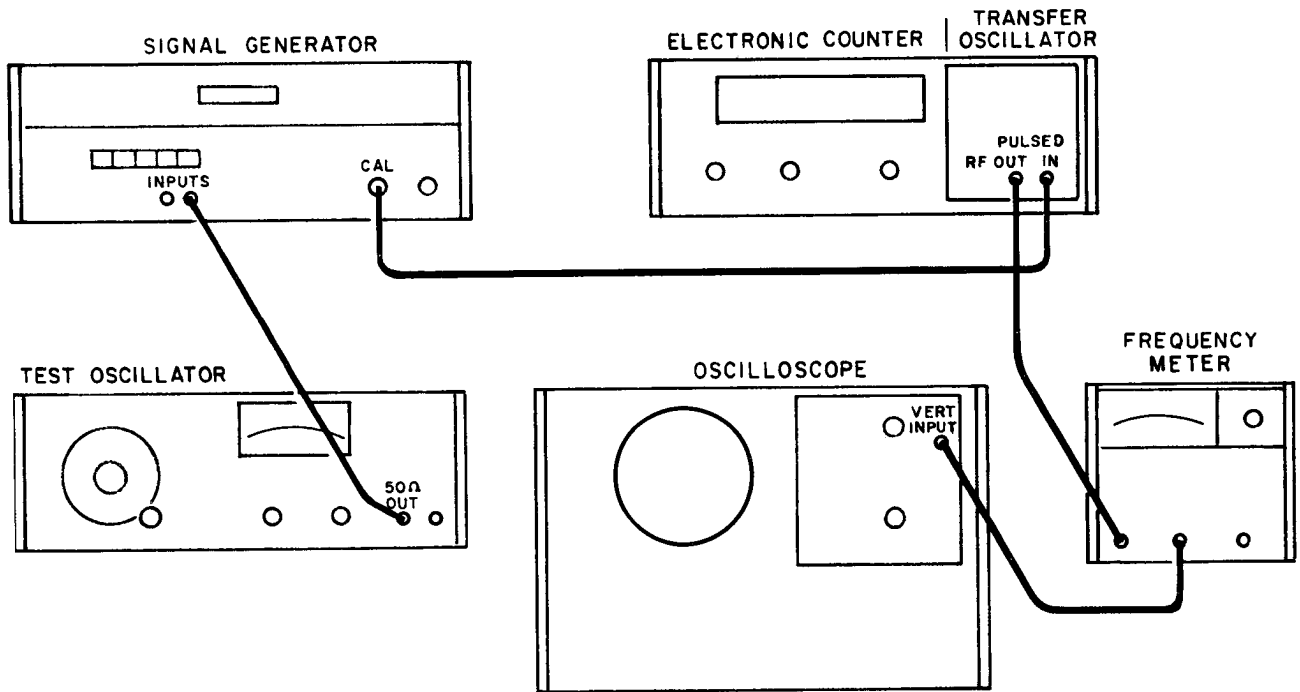

Figure 5-14. Residual and Incidental FM Check
- a. Connect instruments as shown in Figure 5-14, without the test oscillator in the setup.
- c. Connect instruments as shown in Figure 5-14, with the test oscillator in the setup.